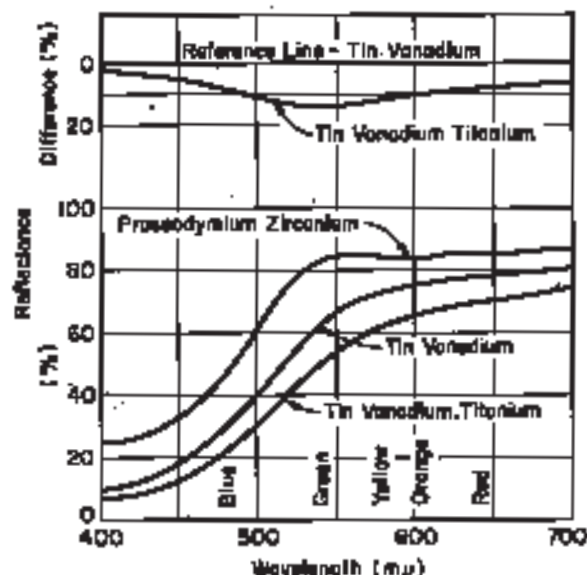

Fig. 1. Comparison of tin-vanadium and praseodymium yellows.
**T**IN-VANADIUM YELLOWS of essentially two types are in common use as glass stains. The so-called lemon yellow is a combination of tin oxide and vanadium oxide and is the weaker version of the two types. A stronger yellow may be made by adding a small amount of titanium dioxide to the color batch, and the increased strength of this modified yellow is accompanied by an increase in the apparent redness of the stain when compared as a glass stain. As may be seen on the reflectance curves plotted in Fig. 1, the titanium dioxide addition contributes increased strength along all parts of the curve. On the top part of Fig. 1, the two curves are compared graphically, the lemon yellow being used as the reference. This comparison shows the titanium dioxide addition to suppress greenness, or, stated another way, the titanium dioxide accentuates apparent redness.
range than tin-vanadium and zirconium-vanadium yellows. (See Fig. 1).